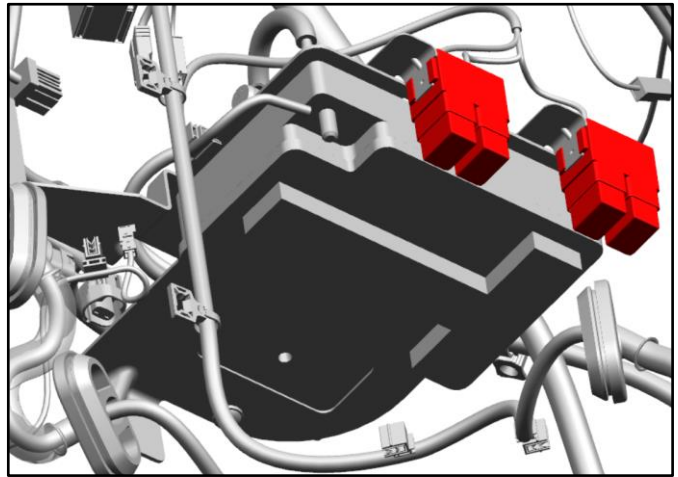

Figure 8
16. Release the two relays from the top of the fuse box. (Refer to Figure 8.)